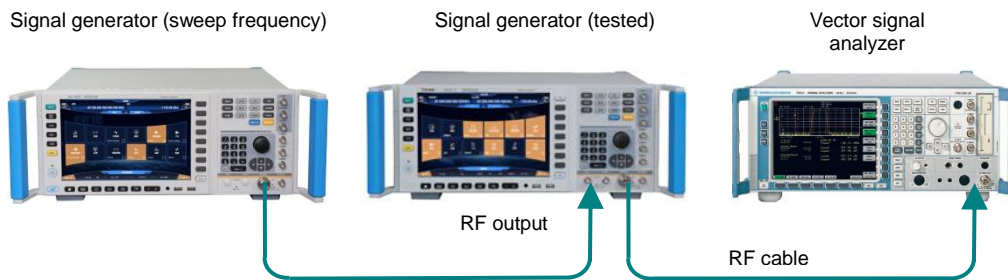

Figure 8.10 External FM Frequency Response Test
**Step 2. Connect the device as shown in Figure 8.10.**